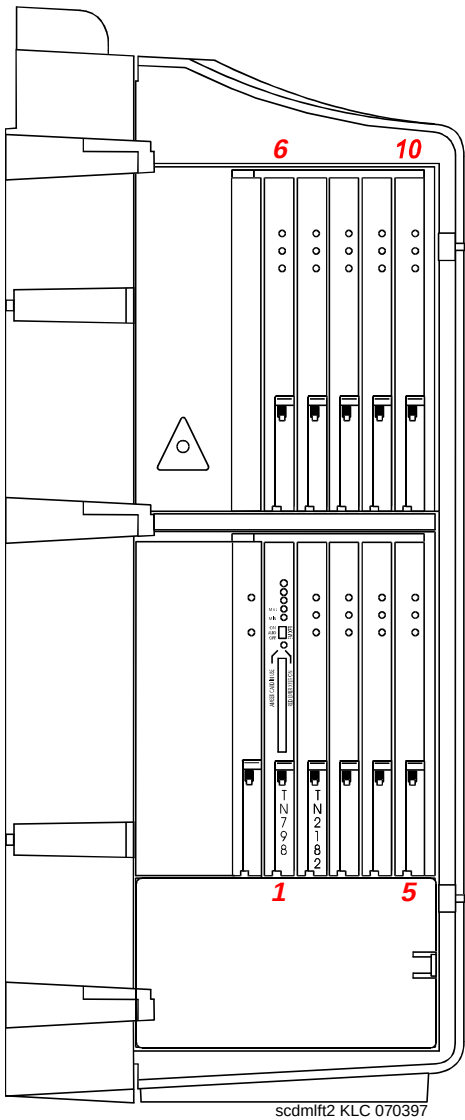

Figure 1-4. Compact Modular Cabinet (CMC) slot configuration
- The CMC cabinet has 2 shelves of 5 slots each (1-5, 6-10) as shown in Figure 1-4. This means that slots 5 and 6 are not contiguous like they are in other DEFINITY cabinet types and that Multi-Function boards such as the TN566 and the MAPD boards (TN800, TN801, and TN802) must be installed in specific slots. For example:
- The TN798 Processor circuit pack incorporates the RISC processor complex, the TN777B NETCON (including PCM flash card interface), and TN765 Processor Interface functions and is always found in slot 1 of the A carrier. (See Figure 1-4)
- The RISC-based TN798 Processor circuit pack must be located slot 1. Figure 1-4 also shows the Flash Memory Card slot for translations.